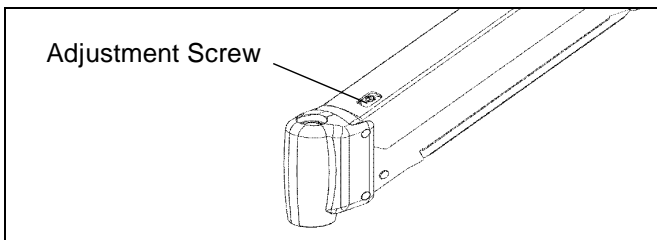

Figure 9:
- Using 5/32" hex key, slightly loosen or tighten the adjustment screw as necessary (See Figure 9).